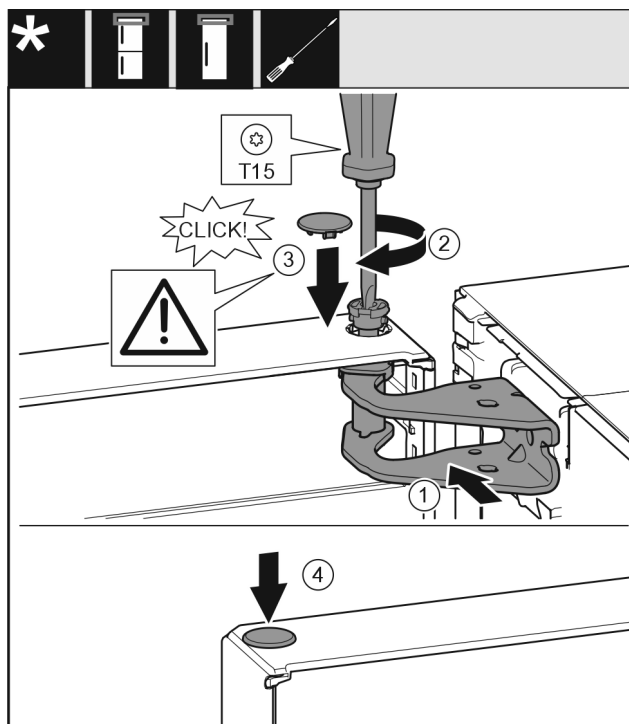

Fig. 35
- Align the top door with the opening in the swap bearing block Fig. 35 (1).
- Insert the bolt Fig. 35 (2) and use screwdriver to tighten it.
- Insert the cover Fig. 35 (3).
- Check that the cover Fig. 35 (3) is resting on the door.
- Insert the cover Fig. 35 (4).